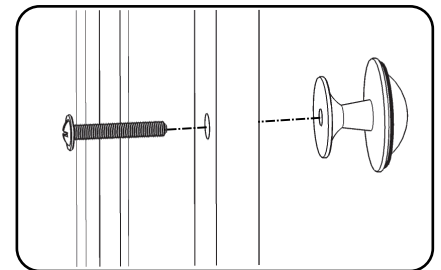

Figure 4
Attach Knobs to Doors (J) and (K) with Machine Screws. (See Figure 4)